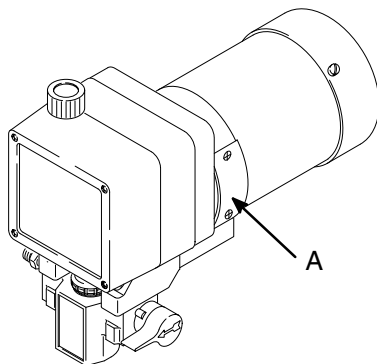

Fig. 16 04653
1. Remove both inspection covers (A) and their gaskets. See Fig 16.
6. Place a new brush (C) in the holder (B) so the ramp (H) faces the spring. See Fig. 16.